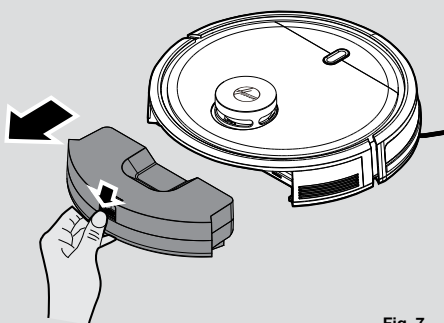

Fig. 7
1. Press the release button and pull it out. [Fig. 7]
1. After vacuuming, remove the dust container, press the release button and pull it out. [Fig. 7]